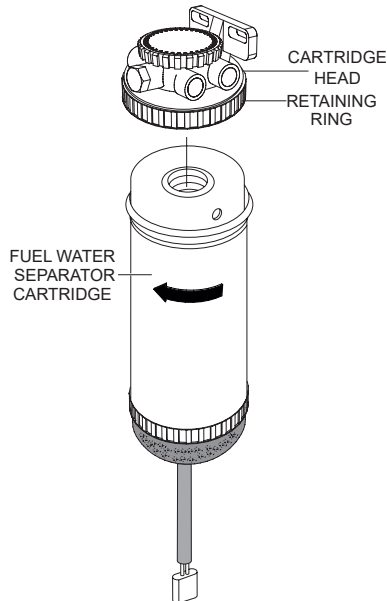

Figure 70. Fuel Water Separator
1. Use a filter wrench to remove the fuel water separator cartridge (Figure 70) from the cartridge head.